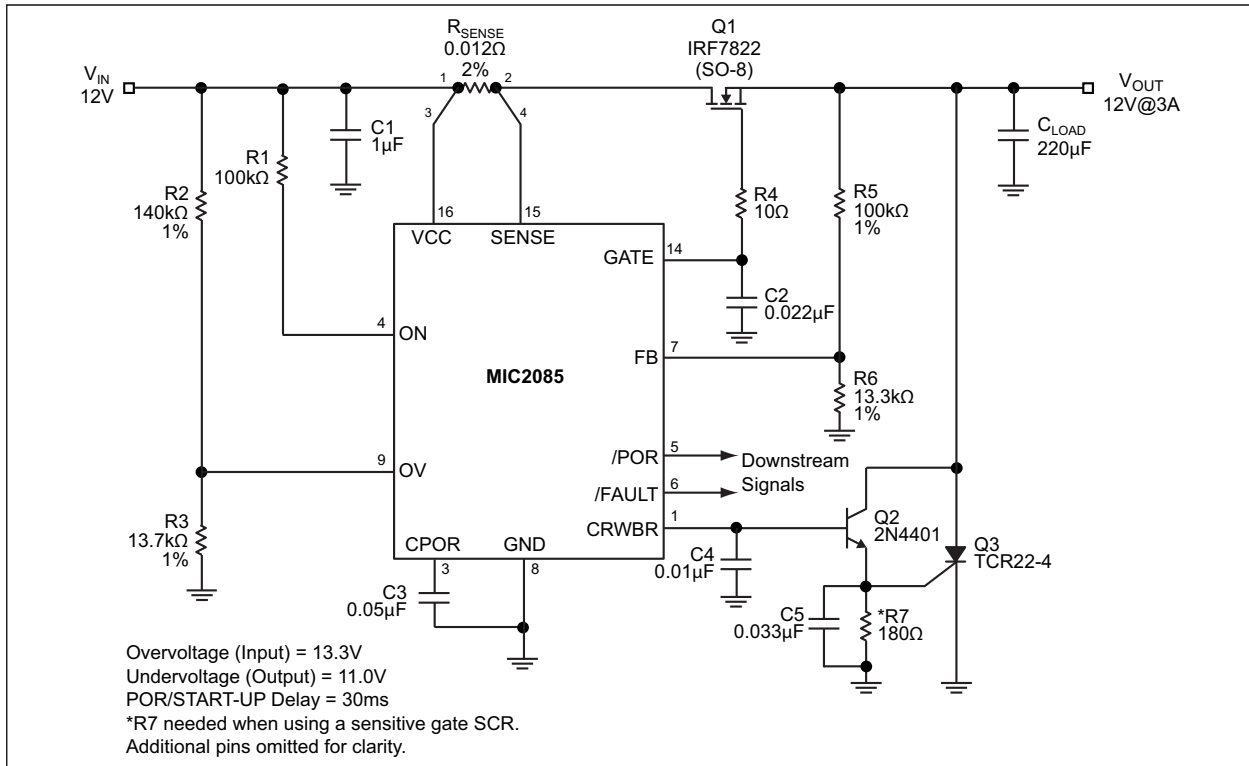

FIGURE 5-1: Undervoltage/Overvoltage Circuit.
For output undervoltage detection, the first consideration is to establish the output voltage level that indicates “power is good.” For this example, the output value for which a 12V supply will signal “good” is 11V. Next, consider the tolerances of the input supply and FB threshold (V_{FB}). For this example, the 12V supply varies $\pm 5\%$, thus the resulting output voltage may be as low as 11.4V and as high as 12.6V. Additionally, the FB threshold has ± 50 mV tolerance and may be as low as 1.19V and as high as 1.29V. Thus, to determine the values of the resistive divider network (R5 and R6) at the FB pin, shown in Figure 5-1, use the following iterative design procedure.
The external CRWBR circuit shown in Figure 5-1 consists of capacitor C4, resistor R7, NPN transistor Q2, and SCR Q3. The capacitor establishes a time duration for an overvoltage condition to last before the circuit breaker trips. The CRWBR timer duration is approximated by the following equation:
See the CRWBR timer pin description in Table 3-1 for more information. A design approach similar to the previous undervoltage detection example is recommended for the overvoltage protection circuitry, resistors R2 and R3 in Figure 5-1. For input overvoltage protection, the first consideration is to establish the input voltage level that indicates an overvoltage triggering a system (output voltage) shutdown. For this example, the input value for which a 12V supply will signal an “output shutdown” is 13.2V (+10%). Similarly, from the previous example:
feedback and overvoltage resistive networks are selected for a 12V application (from Figure 5-1). Many hot swap applications will require load currents of several amperes. Therefore, the power (V_{CC} and Return) trace widths (W) need to be wide enough to allow the current to flow while the rise in temperature for a given copper plate (e.g., 1 oz. or 2 oz.) is kept to a maximum of 10°C ~ 25°C. Also, these traces should be as short as possible in order to minimize the IR drops between the input and the load.